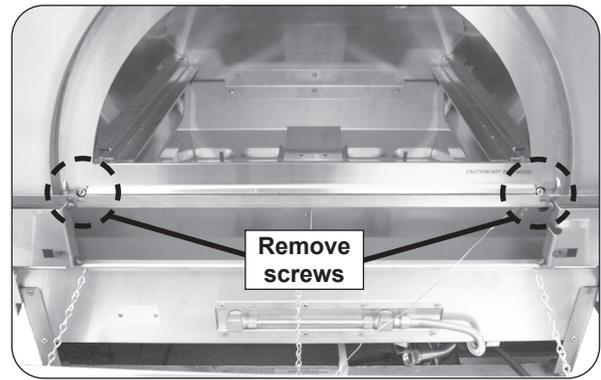

Fig. 2-1 Remove hood - front screws
3. Using a Phillips screwdriver, remove the two front screws located just below the left and right sides of the oven door. See Fig. 2-1.